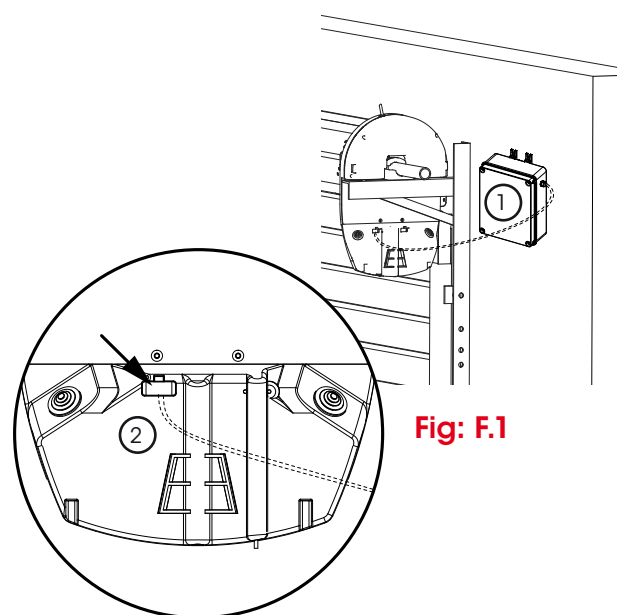

Fig: F.1
a) To mount battery backup pack ① onto the wall, use the battery pack as template to mark where to drill holes as per **Fig F.1**. Pre-drill holes and affix to wall with appropriate screws.
b) Connect battery harness ② plug through opening to control board on the GDO-12 RAS as shown in **Fig F.1**.